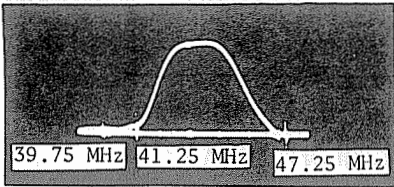

FIGURE 1
41.25 MHz	Adjust CP203 for MINIMUM. See Figure 1.
47.25 MHz	Adjust CP202 for MINIMUM. See Figure 1.